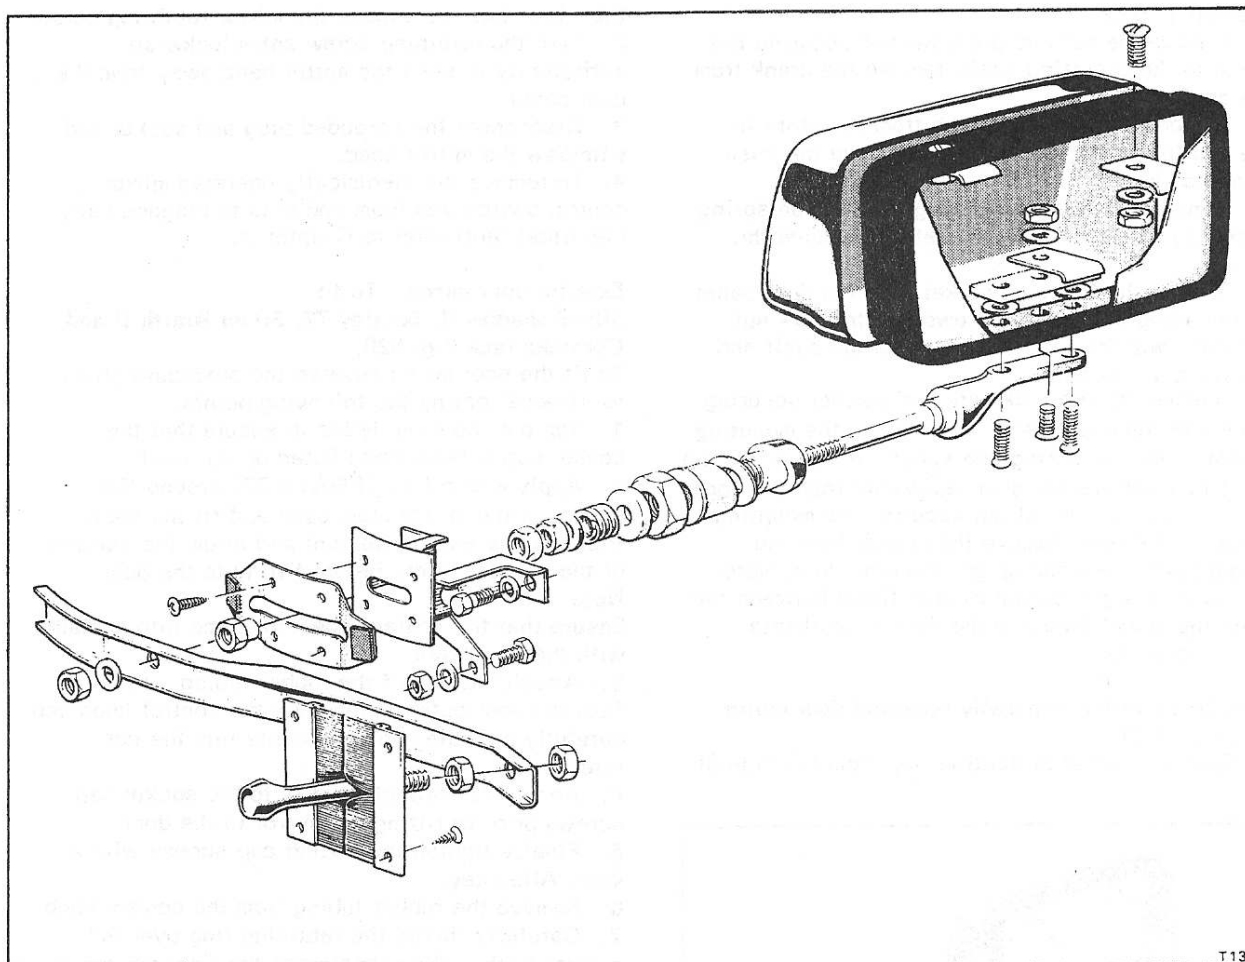

Fig. S22 Exterior door mirror - Camargue (Manually operated)
(see Fig. S22)**
**Cars fitted with manually operated door mirror (see Fig. S22)**